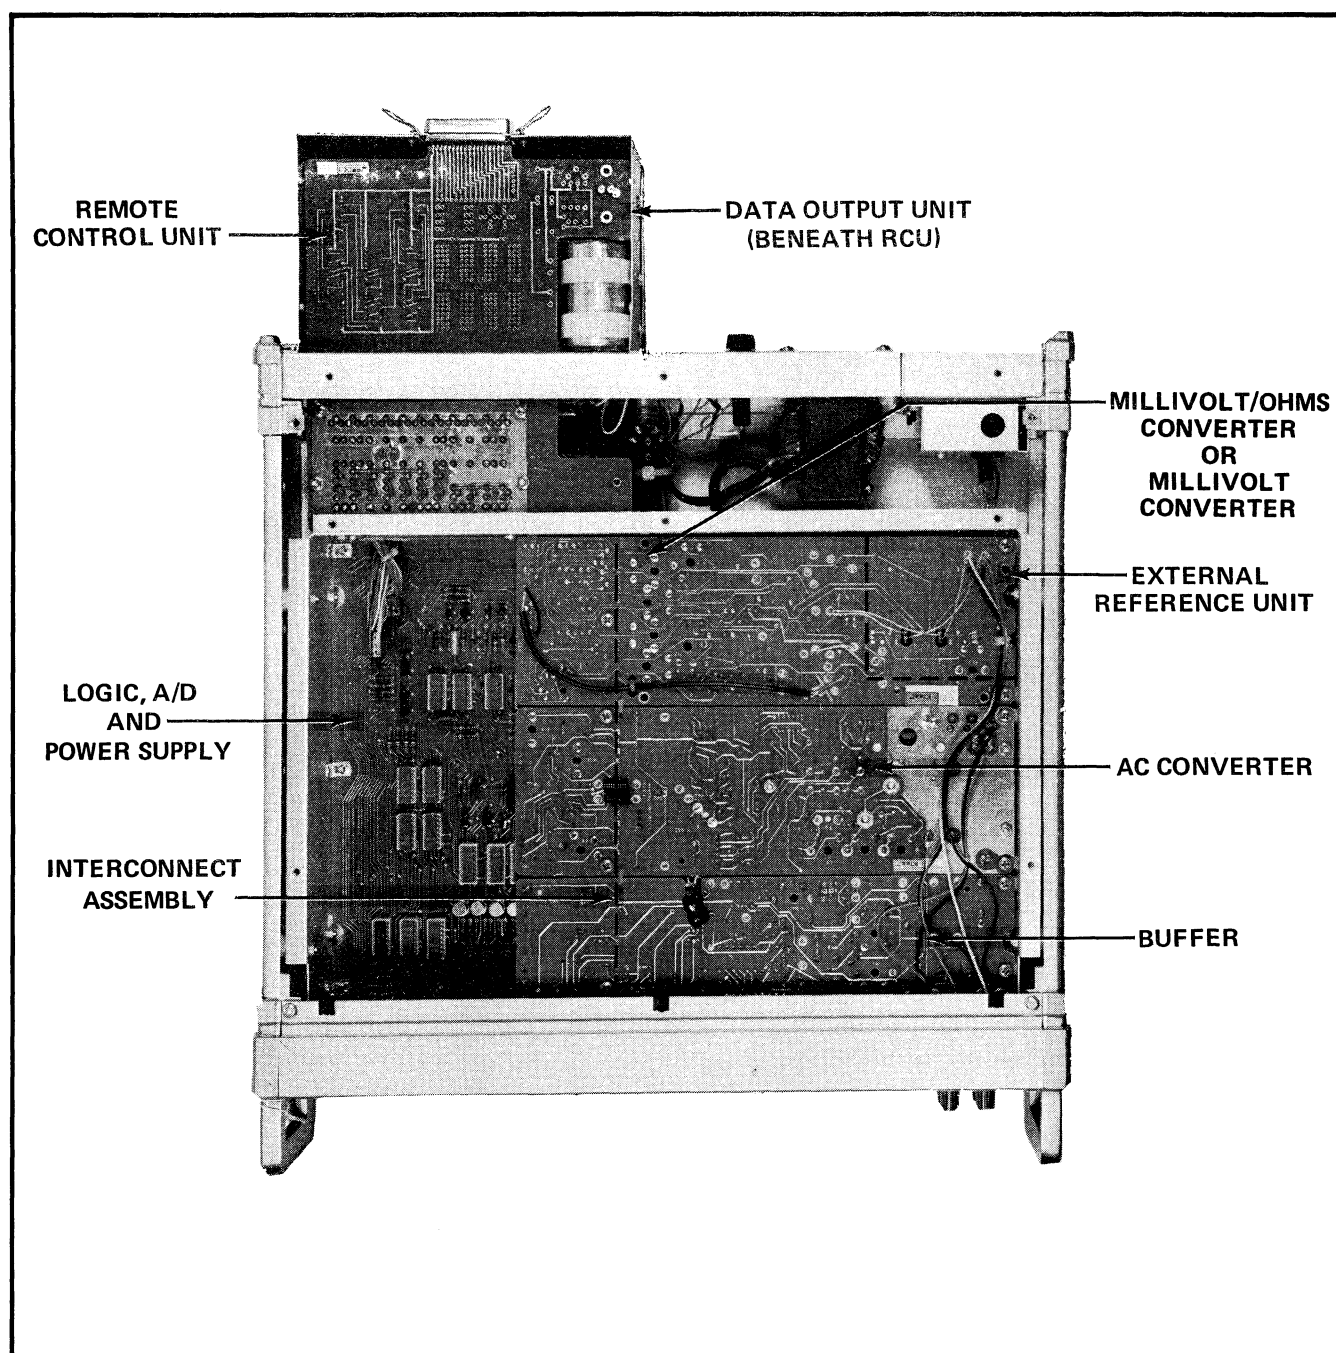

Figure 4-2. ASSEMBLY LOCATIONS
- If the AC Converter or MV/Ohms Converter options are installed (see Figure 4-2), remove the top front panel trim strip and inner guard chassis cover. Then remove the two converter boards to gain access to components on the two assemblies, as well as components on the Logic and A/D assembly.
- To gain access to components located on the External Reference board, (1) remove the MV/Ohms Converter (if installed) and (2) remove the External Reference board by removing the three hex nuts from the main board (bottom side), which hold down the Reference PCB mounting studs.